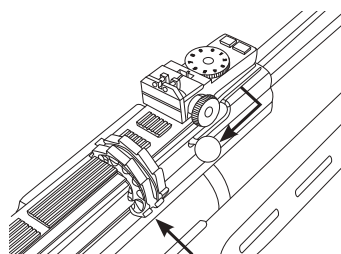

Fig. 10
3. Place the loaded magazine in its place and unlock magazine release bolt by pulling it downwards so it locks back to its place under spring load. (Fig.10). If necessary rotate the magazine counter-clockwise until its movement is arrested by the magazine stop.